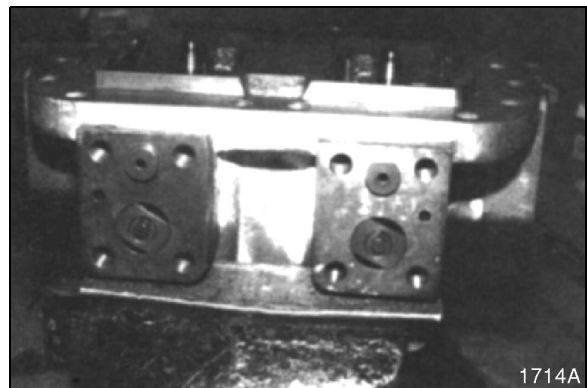

Figure 120
16. The ring is shown installed in Figure 120.